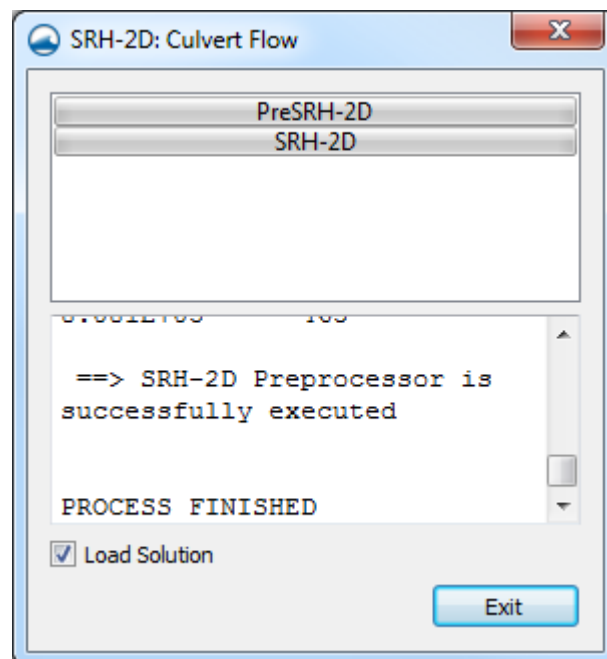

Figure 8. SMS Model Wrapper
6. As shown in Figure 8 make sure *Load Solution* is checked in the SMS model wrapper and click **Exit**. The solution datasets will now be listed in the Project Explorer under “Gila\_Mesh”.